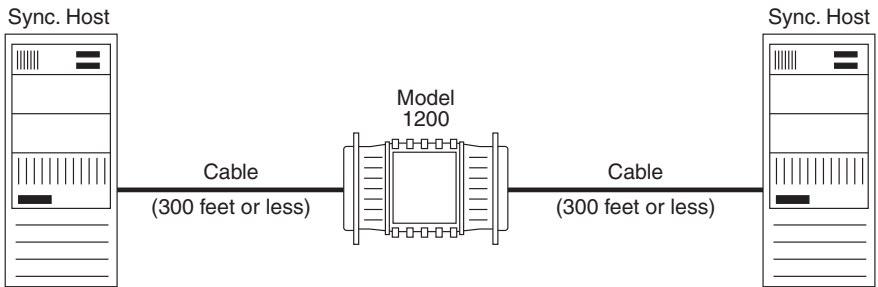

Figure 1. Configuration
3. Plug the DB-25 connectors directly into the serial ports of your RS-232 devices. If you wish to extend the distance, you can add cables on both sides (see Figure 1).
Note Cables must not be longer than 300 feet (see Figure 1).